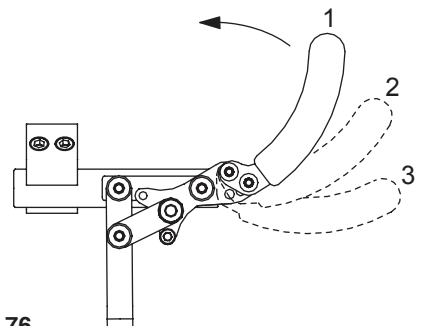

Figure 76
2. Position the wheel lock handle from the left Uni-Lock on the right Uni-Lock in the desired position. See Figures 76 and 77.